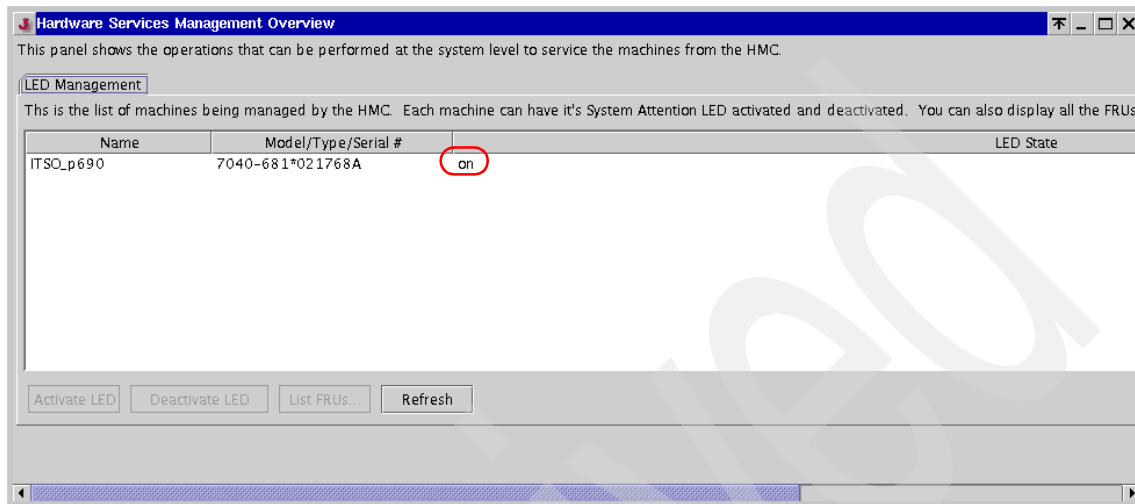

Figure 11-19 Hardware Service Functions overview
3. You will see the Hardware Service Management: Overview window, as shown in Figure 11-19. Select the managed system on which you want to check the LED state, then click **List FRUs**.
Note: As highlighted in Figure 11-19, the managed system ITSO_p690's attention LED is flashed.